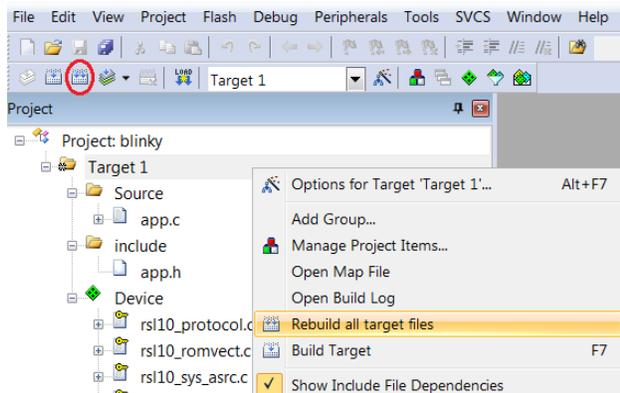

Figure 22. Starting to Build a Project in the Keil μVision IDE
1. Right click on **Target 1** and choose **Rebuild all target files**. Alternatively, you can use the icon shown in Figure 22.